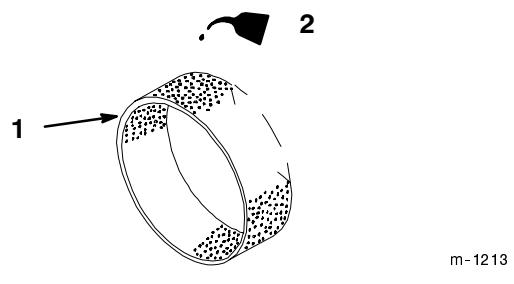

Figure 25
- C. Put oil on the element (Fig. 25). Squeeze the element to distribute the oil.